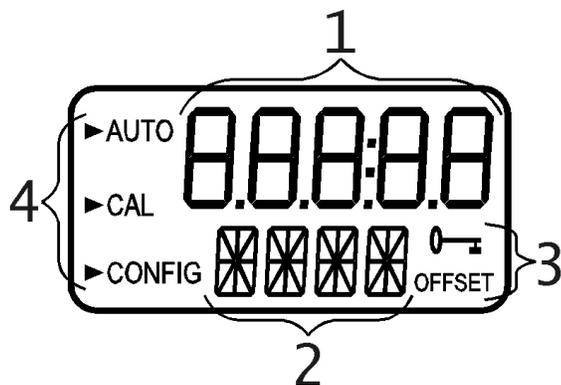

Figure 1 – Display used in the instrument
Figure 1 illustrates all the items that can appear on the display. The upper row of the display (1) is used for reporting the % T levels and to provide user guidance in the customer setting routine. The lower row of the display (2) is used to communicate error messages and provide user guidance. All error messages will be added to a queue along with the units (%T). The display has two icons (3) that are used to indicate the use of access code and offset mode. In addition, mode arrows (4) are used to indicate the current instrument operating mode; AUTO (normal operation), CAL (calibration) and CONFIG (configuration).